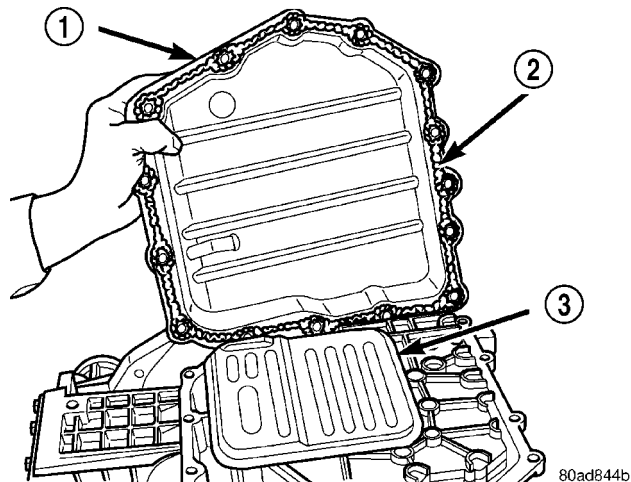
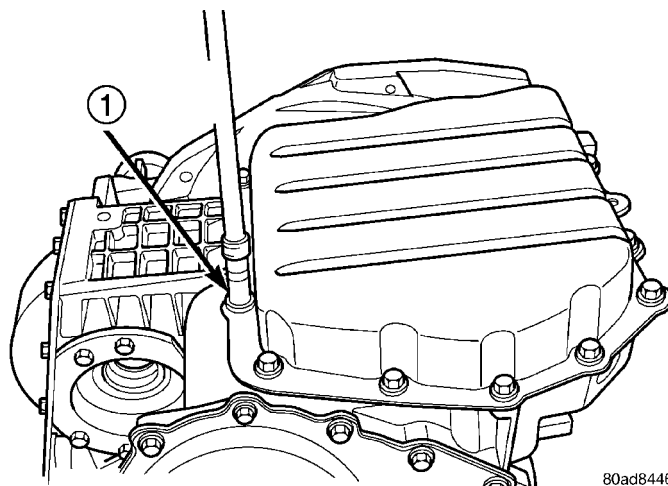

Fig. 351 Oil Pan
Fig. 352 Oil Pan Bolts
(3) Ensure the transaxle oil pan and transaxle case sealing surfaces are clean and dry. Install an 1/8" bead of Mopar® Silicone Rubber Adhesive Sealant to the oil pan and install (Fig. 351). Torque oil pan-to-transaxle case bolts (Fig. 352) to 19 N·m (165 in. lbs.).